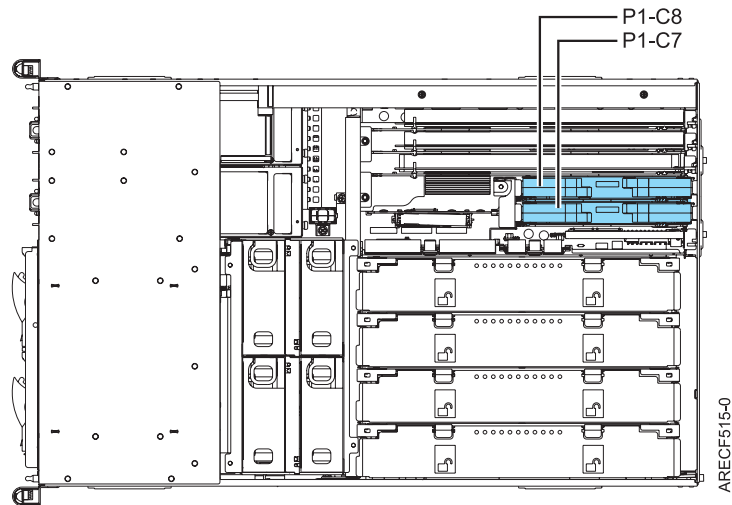

Figure 1. Top view of slots P1-C7 and P1-C8
8. Locate the appropriate slot in which to install the GX adapter. If there is only one processor card, you must use a Feature Code (FC) 5609 (GX+) adapter and choose slot P1-C8 as shown in Figure 1 on page 2. If two processor cards are installed, P1-C7 also supports a GX adapter. To use the FC 5616 (GX++) DDR adapter, two or more processor cards are required.